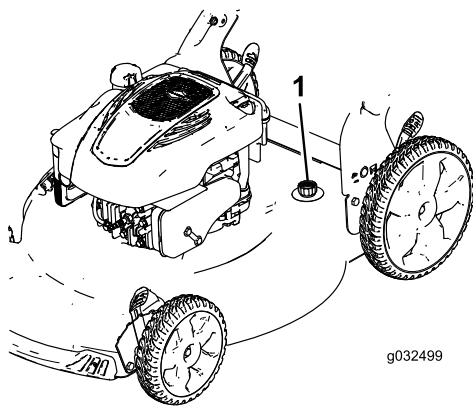

Figure 29
- Attach a garden hose that is connected to a water supply to the washout port (Figure 29).